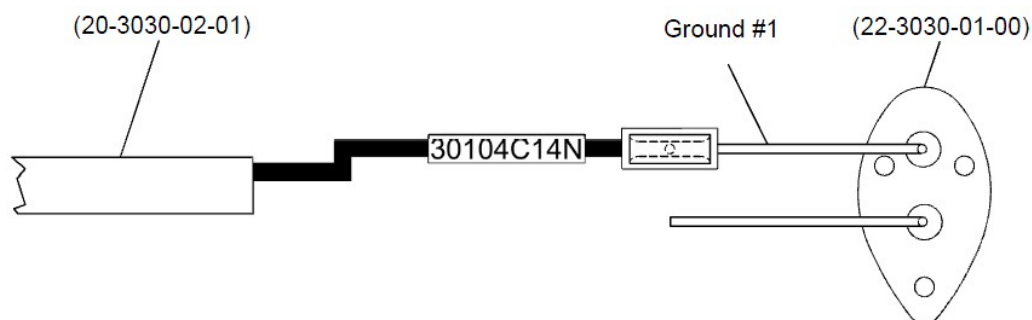

Figure 56: Heated Pitot Static Probe Assembly Ground Wire #1 Installation
- 13.3.5 Splice together wire 30104C14N with the ground lead of one of the heater elements, from the Heated Pitot Static Probe Assembly. Use the splice provided with the Heated Pitot Static Probe Assembly. See Figure 56.